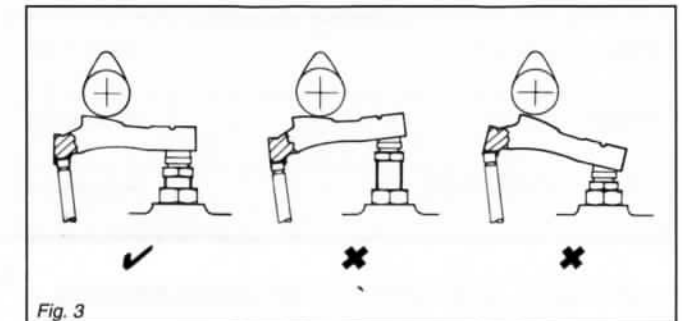

Fig. 3
12. When modifying engines that utilize finger followers i.e. Ford Pinto SOHC, it is imperative that you ensure the followers remain in the original attitude relative to the cylinder head, (See Fig. 3) Failure to do so will alter the rocker geometry, increasing or decreasing valve lift and can result in failure of both cam and followers.